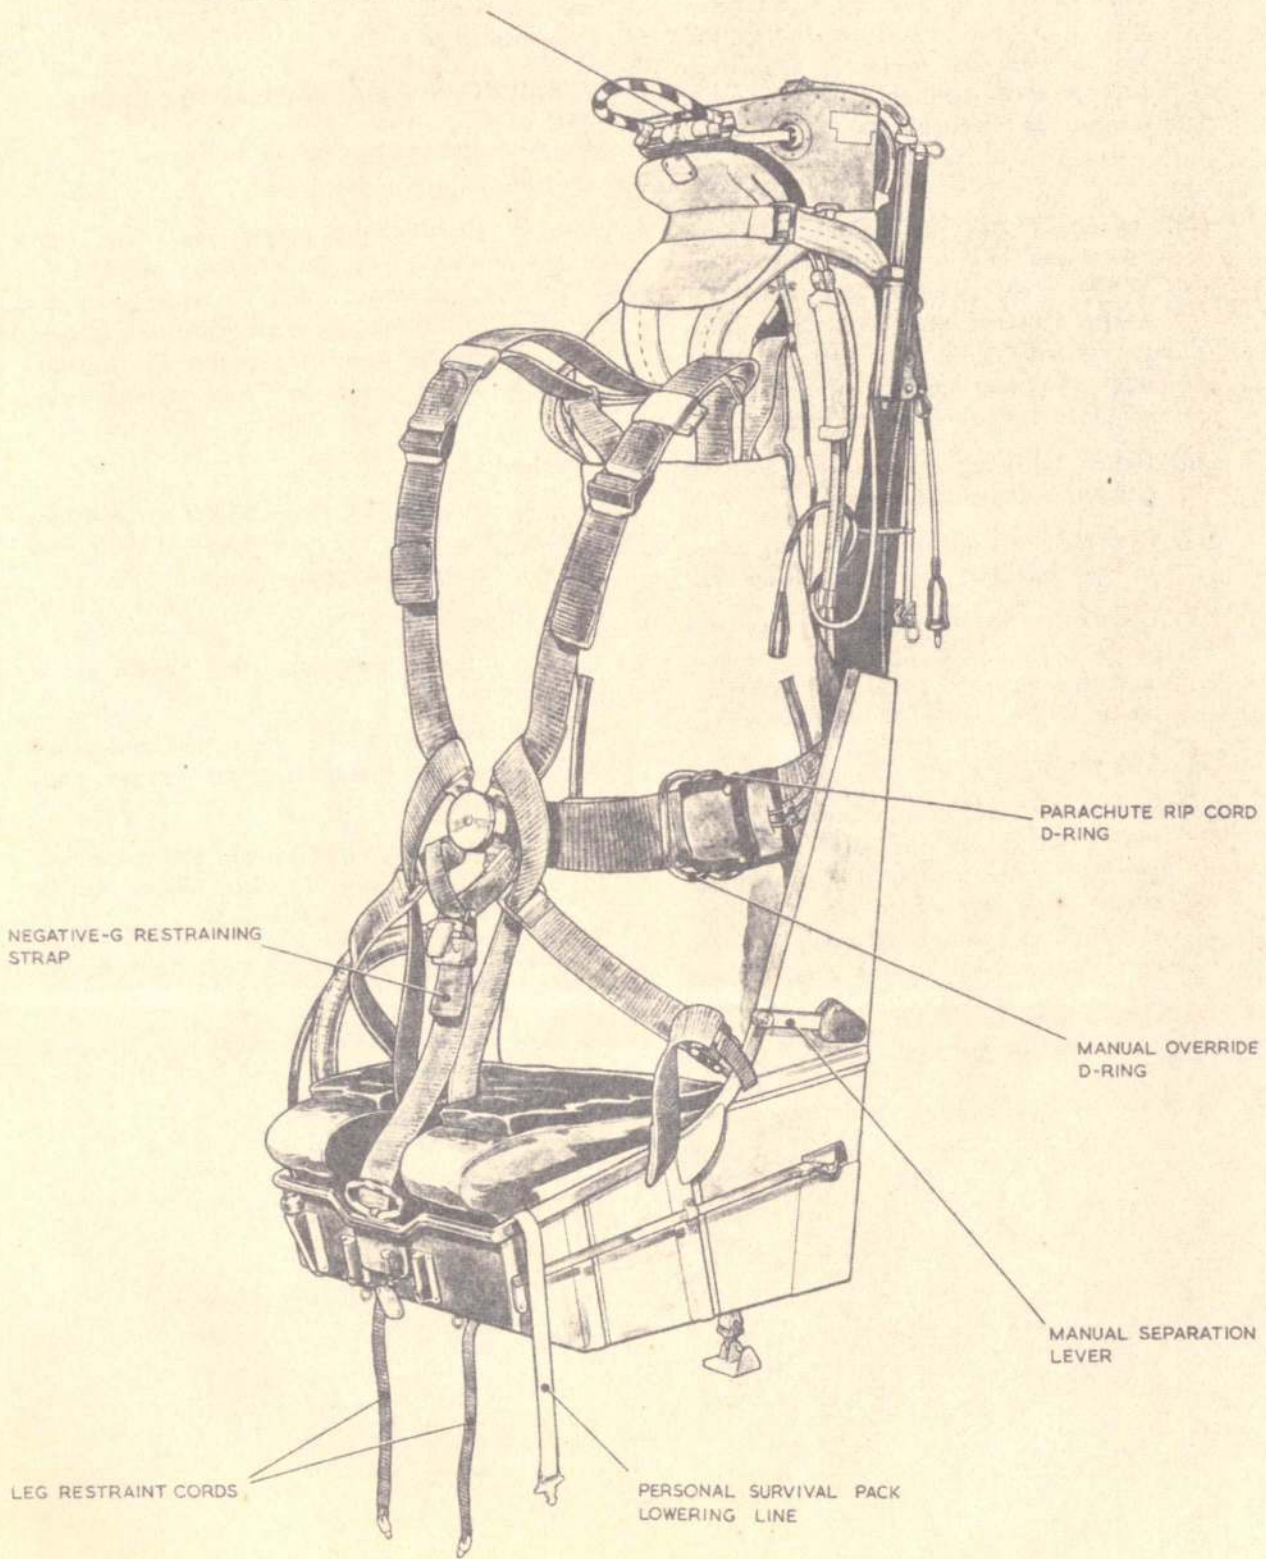

Fig. 1. The seat equipped (port)
16. The following procedure is to be adopted, referring to fig. 1 to 7 as necessary:-